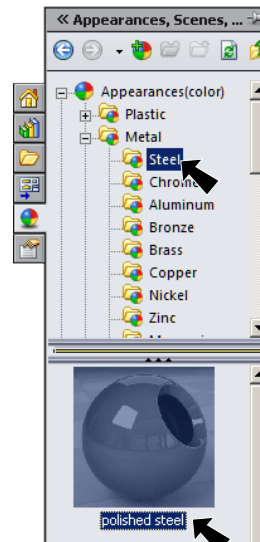

Fig. 16
Step 2. In the Appearances Task pane, expand **Metal** and click **Steel**. In lower pane select **polished steel**, Fig. 16.